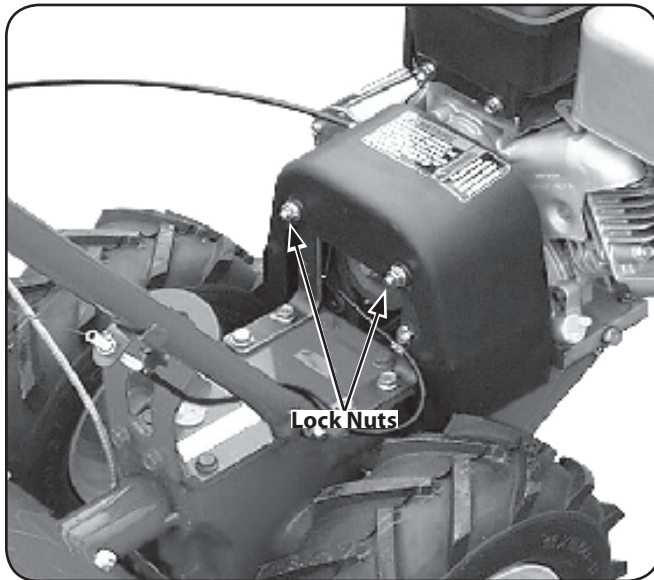

Figure 6-8
2. Remove the two lock nuts and remove the belt cover. See Fig. 6-8.
2. Remove the two nuts and remove the belt cover. Refer to Fig. 6-8 in the Maintenance & Adjustments Section.
2. Remove the belt cover by removing two flange locknuts. See Fig. 6-8 in the Maintenance & Adjustments Section.